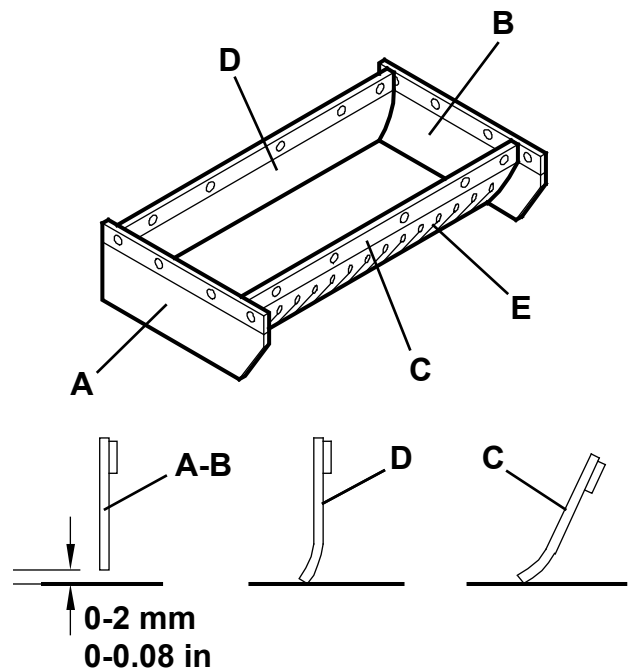

Figure 11
2. Turn the main switch (1) to "0".
3. Check that the height from the ground of the side skirts (A and B, Fig. 11) is within 0 and 0.08 in (0 and 2 mm). Check the skirts for integrity, cuts or tears, which can reduce the machine vacuum capabilities. If necessary replace the side skirts (see the procedure in the Service Manual).
4. Check that the front and rear skirts (C and D, Fig. 11) slightly rub on the ground. Check the skirts for integrity, cuts or tears, which can reduce the machine vacuum capabilities. Note that the front skirt has typical vertical cuts (E). If necessary replace the front and rear skirts (see the procedure in the Service Manual).